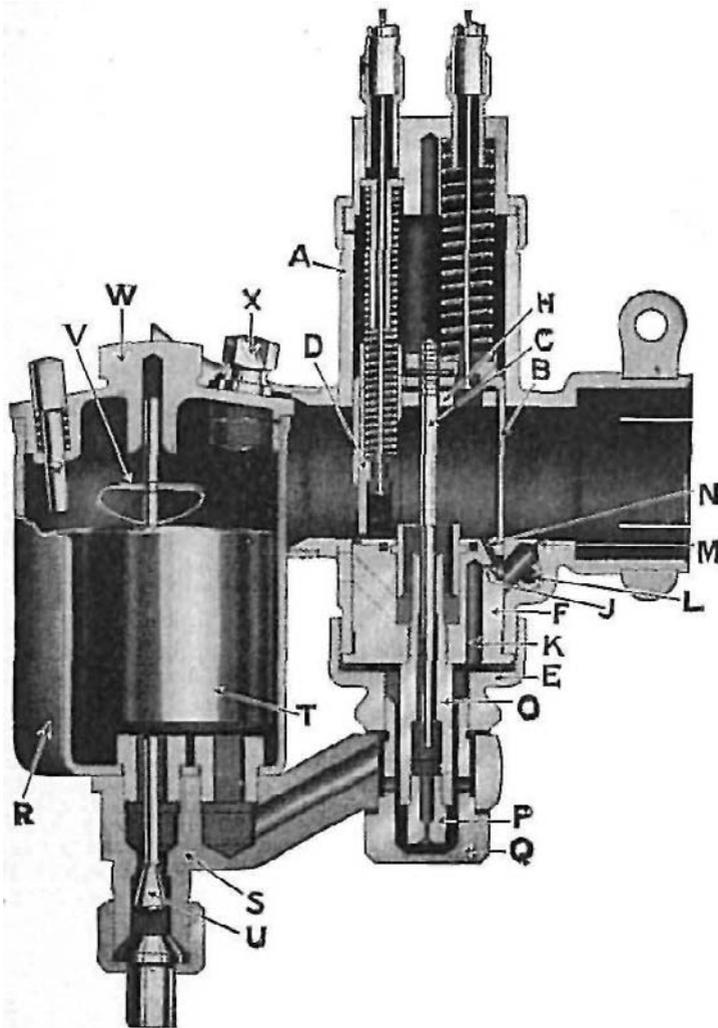
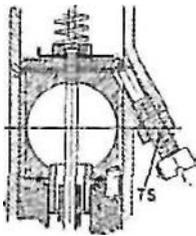

FIG. 52. SECTIONAL VIEW OF SEMI-AUTOMATIC PILOT JET, AMAL CARBURETTOR
FIG. 52A. AMAL
**Starting Up.** Having turned on the petrol, flooded the carburettor, and turned on the ignition switch (where fitted), proceed as follows: Place gear lever in neutral; open the throttle lever or twist grip to about one-sixth of its total movement and completely close the air lever, unless the engine be Warm, when it may be opened very slightly; move the ignition lever to the three-quarter advance position. The correct settings of the Bowden controls are dependent, of course, upon there being no backlash, and if there is any it should be rectified at once by means of the small adjusting stops. On all present models an adjustable carburettor throttle stop gives a slow-running "tick-over" position, and prevents the throttle slide closing entirely, so that once the engine has been started up it can be stopped only by choking it with the air lever or by switching off the ignition. Difficult engine starting is often due to faulty setting of the carburettor controls, and the importance of *keeping the throttle nearly closed* cannot be too strongly emphasized. Only by doing this can a sufficiently high velocity air current be induced over the pilot jet, as may be understood by reference to Fig. 52. The main jet plays no part in starting, but as the throttle slide is opened so the suction on the pilot lessens and increases on the main jet, until finally the pilot goes right out of action. A small milled edge screw at the mixing chamber base controls the air supply to the pilot jet. This screw is accurately adjusted by the manufacturers and, as a general rule, is best not tampered with.
**The Two-lever Semi-automatic Amal Carburettor (Fitted to all Models).** Referring to Fig. 52, showing a sectional view of the instrument, *A* is the carburettor body or mixing chamber, the upper part of which has a throttle valve *B*, with taper needle *C* attached by the needle clip. The throttle valve regulates the quantity of mixture supplied to the engine. Passing through the throttle valve is the air valve *D*, independently operated, and serving the purpose of obstructing the main air passage for starting and mixture regulation. Fixed to the underside of the mixing chamber by the union nut *E* is the jet block *F*, and interposed between them is a fibre washer to ensure a petrol-tight joint. On the upper part of the jet block is the adaptor body *H*, forming a clear through-way. Integral with the jet block is the pilot jet *J*, supplied through the passage *K*. The adjustable pilot air intake *L* communicates with a chamber, from which issues the pilot outlet *M* and the by-pass *N*. It is undesirable, except in special circumstances, to interfere with the pilot jet screw as the volume of air admitted is accurately determined by the makers. An adjusting screw (*TS*, Fig. 52A.) is provided on the mixing chamber, by which the position of the throttle valve for tick-over is regulated independently of the cable adjustment. The needle jet *O* is screwed in the underside of the jet block, and carries at its bottom end the main jet *P*. Both these jets are removable when the jet plug *Q*, which bolts the mixing chamber and the float chamber together, is removed. The float chamber, which has bottom feed, consists of a cup *R* suitably mounted on a platform containing the float *T*, and the needle valve *U* attached by the clip *V*. The float chamber cover *W* has a lock-screw *X* for security.